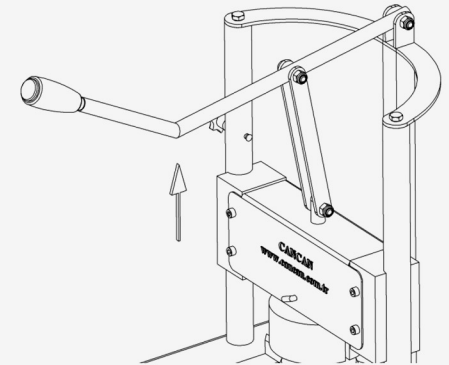
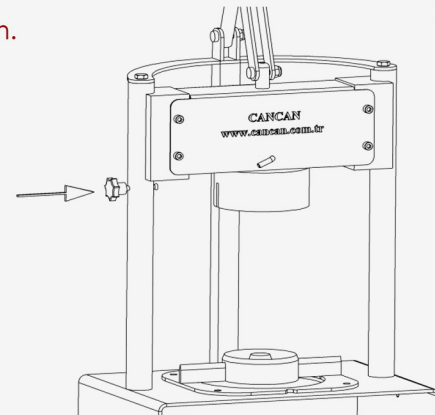

Figure 3
Figure 4
- ✓ Lift up the handle of your product with one hand on the vertical axis (Figure 3). Push the lever with the other hand without leaving the safety pin (Figure 4). This will prevent the falling down of the driving wedge.